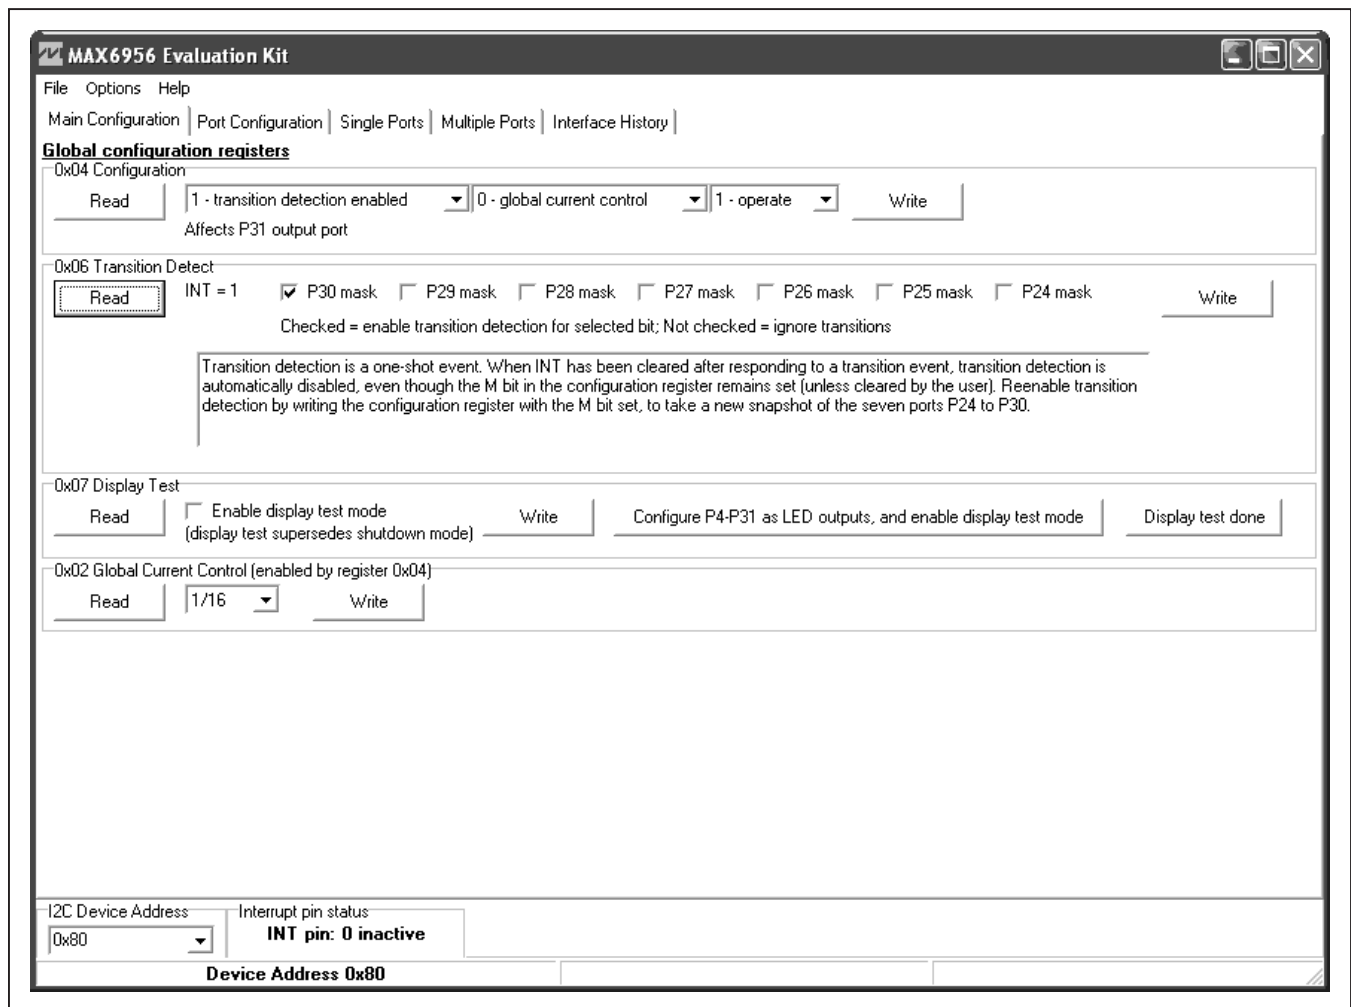

Figure 1. MAX6956 EV Kit Software Main Window (Main Configuration Tab)
- 7) Start the MAX6956 EV kit software by opening its icon in the **Start | Programs** menu. The EV kit software main window appears, as shown in Figure 1.
The MAX6956 EV kit software provides a graphical user interface (GUI) to configure the EV kit hardware. See Figures 1–4.
- 3) Select the **Main Configuration** tab (Figure 1). In the **0x06 Transition Detect** group box, check **P30 mask** and press the **Write** button.